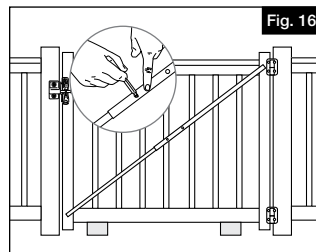

Fig. 16
- 13.** Use spacer blocks as shown in Figure 16 to ensure that gate is square and level. On one side of the gate, extend cross brace along the gate to the opposite upright (noting one side will be adjacent to hinge) to determine cross brace length (Fig. 16). Mark provided screw holes with a pencil as shown (Fig. 16 inset). Pre-drill through the marks using a 1/8" drill bit and then secure brace together using the #8 x 3/8" blunt end screws provided (item L from component list).